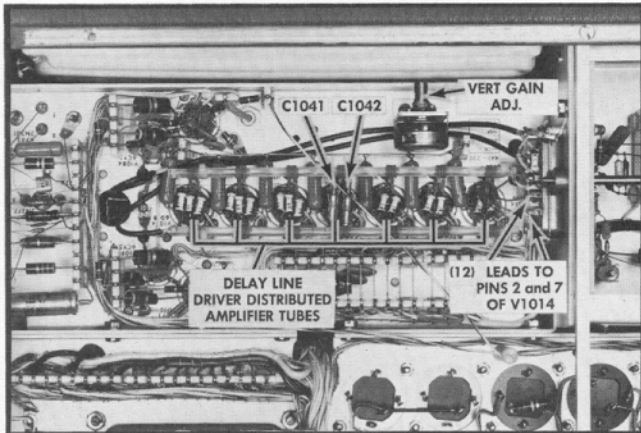
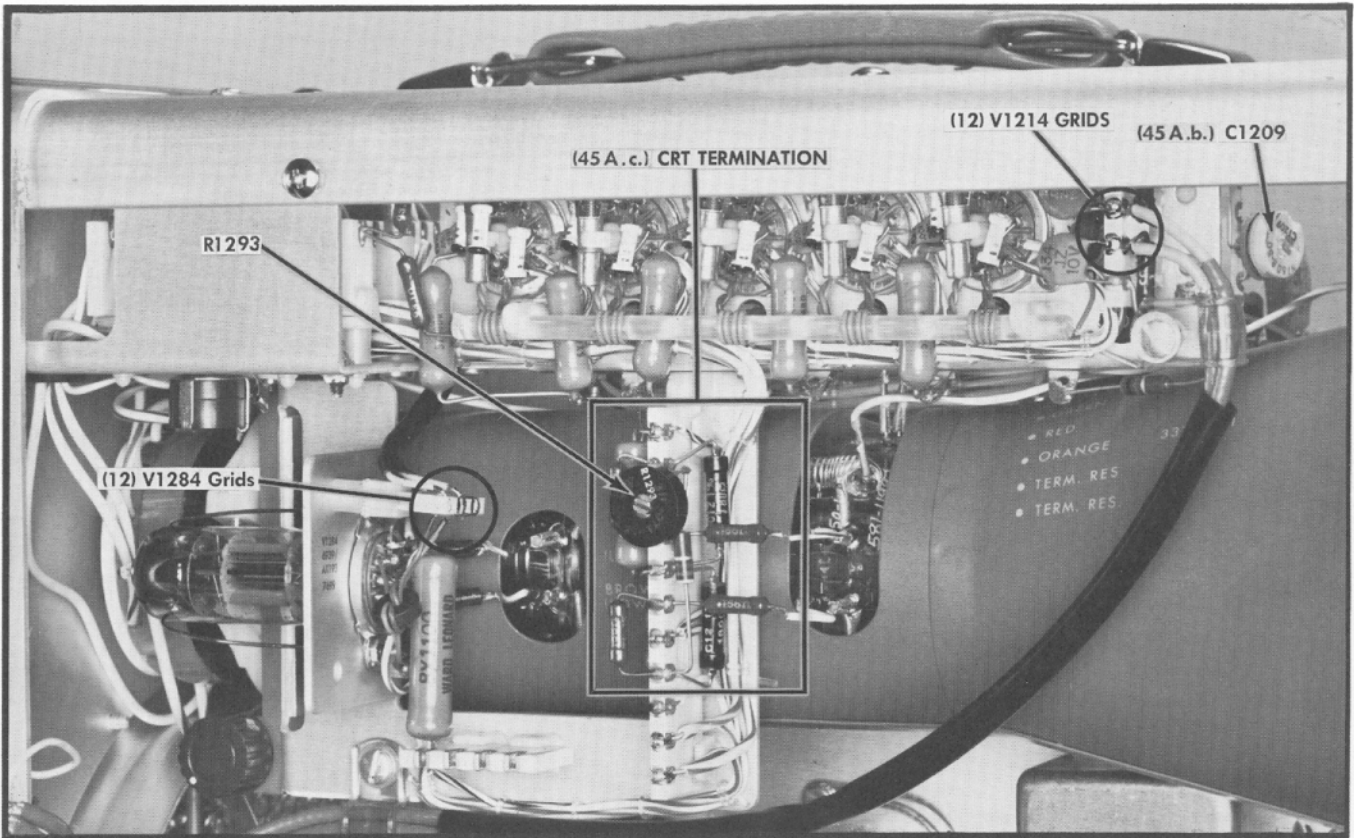

Fig. 6-8. Bottom View of driver distributed amplifier.
Fig. 6-10. Left rear side view of the Type 585 Oscilloscope, after Serial No. 2585, showing changes in vertical system.
Rotate the VERT. GAIN ADJ. control (see Fig. 6-8) fully clockwise. Short the vertical deflection plates together at the neck pins on the crt. (Be careful not to short the plates to the crt shield.) When the vertical-deflection plates are shorted, the trace will appear at the electrical center of the crt. Remove the short and vertically position the trace to coincide with the electrical center.
Lay the oscilloscope on its right side. The bias on each tube in the Delay Line Driver stage (see Fig. 6-8), measured from each grid to cathode, should be about 0.35 volt. (Both grid and cathode of these tubes are at about +50 volts. Use a voltmeter that can be elevated safely.) Connect the dc voltmeter between pin 8 (cathode pins 3 and 8 are connected together) and pin 2 (grid) to measure the bias on the first half of the tube V1014. Then move the voltmeter lead from pin 2 to pin 7 to measure the bias on the second half of the tube. Move the voltmeter connections successively to each Delay Line Driver tube.
When the delay line is either in the latched position or is opened outward, no oscillations should appear on the crt screen. If oscillations occur when displaying 2 cm of calibrator signal, adjust the neutralizing capacitors, C1041 and C1042 (see Fig. 6-8), for no oscillations. Use a plastic, low capacity tool.
Using a 27 Ω shorting resistor such as is pictured in Figure 5-14, carefully short pin 1 to pin 3 of V1284 at the location shown in Figure 6-10. Observe electrical center shift. Next, short pin 2 to pin 7 of V1214 (Fig. 6-10). The trace should not shift from the electrical center more than 0.5 cm in either case. Carefully short pin 2 to pin 7 of V1014 at the location shown in Figure 6-8. The trace should not shift more than 0.5 cm. (If using a TU-3, the last shorting operation is done by pushing the ZERO REFERENCE button.)
b. In instruments before Serial No. 2585, place the oscilloscope in the upright position. Set the AMPLITUDE CALIBRATOR control at .2 VOLTS and connect the P80 Probe to the CAL. OUT connector. (Use Adapter 013-017). Leave the TIME/CM control at .5 MILLISEC and adjust the VERT. GAIN ADJ. control (see Fig. 6-8) for a deflection of exactly two centimeters. Turn the AMPLITUDE CALIBRATOR off.